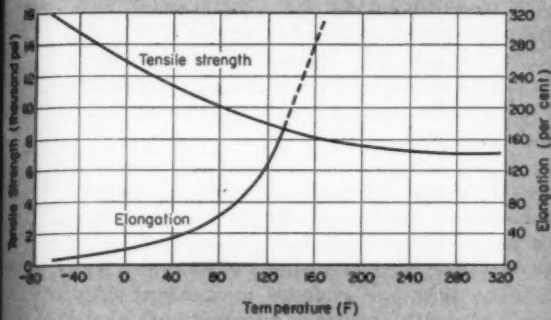
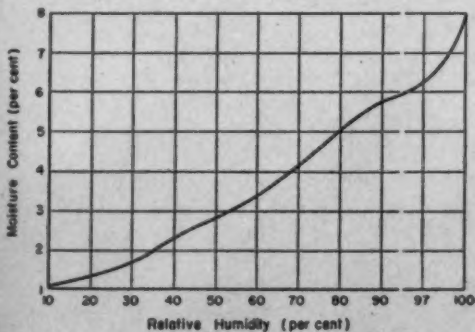

Fig. 3 — Temperature effect on tensile strength and elongation of FM-10001 nylon
Fig. 5—Equilibrium moisture content at 75 F of FM-10001 nylon at various relative humidities
Typical of the standardized components used is the family of magnetic memory drums. Developed and proved in computer system work, the drums provide a wide range of storage capacities and are available as stock items. Drums vary in size from a small unit for airborne use to one which has storage capacity of 1-million decimal digits. One such standard drum with the proper storage capacity is simply selected and incorporated into the system, *Fig. 5*.
*Fig. 3—Left Above—Open-book construction of the basic modular design element provides ready access to wiring and components on sides of each board, and simplifies both maintenance and assembly*
*Fig. 5—Below—More than 600,000 binary digits can be stored in the rapid-access magnet memory drum of the 1103 computer. Superspeed memory is provided by electrostatic storage units. Magnetic tape provides large-capacity, supplementary storage*
**MOISTURE CONTENT, CRYSTALLIZATION AND HEAT:** Hardness, stiffness, impact strength and other physical properties of nylon are directly affected by moisture content and degree of crystallization, as well as by temperature. The effects of moisture content and temperature on important properties are shown in Figs. 3 and 4. Fig. 5 gives the equilibrium moisture content of FM-10001 nylon for various relative humidities. Moisture gained by rods of four different diameters soaked a varying number of hours in room-temperature water is